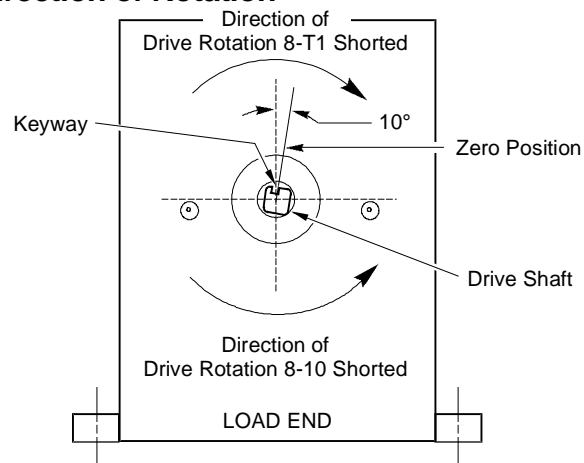

Figure 4: Direction of Rotation
All reference to the direction of rotation is when viewing the load end as stamped on the actuator housing shown in Figure 4. From this view, the Counterclockwise (CCW) limit is the zero position. The actuators are factory set and shipped at the zero position, which is 10 degrees Clockwise (CW) from vertical, allowing 90 degrees of CW travel. (See Figure 4.)